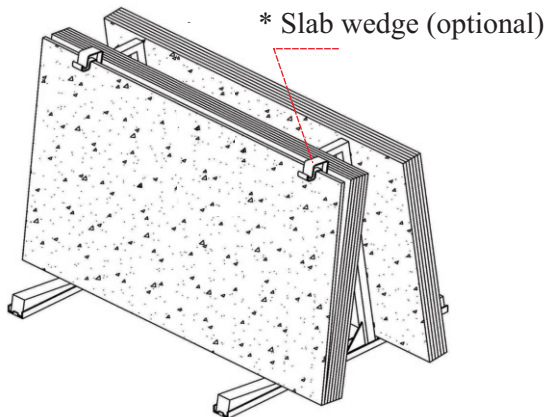

Figure 4.1
**Step 4:** Use slab wedges\* to make a gap between the outer slab and the inner slab (Figure 4.1).